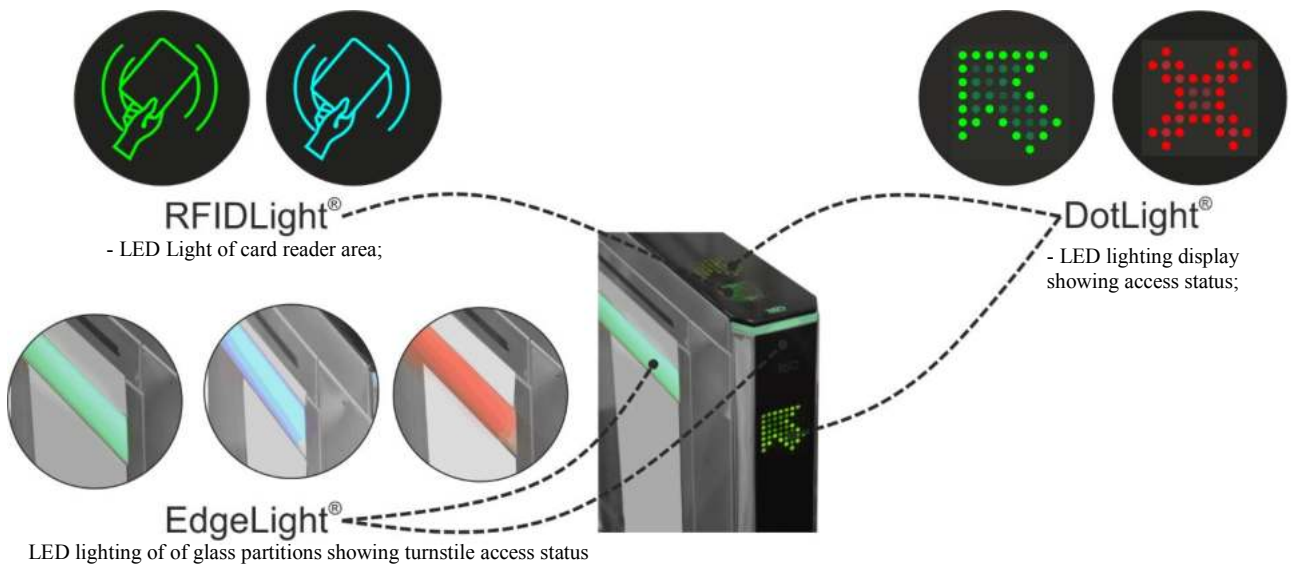

Fig.6 – Light indication of the turnstile status
The turnstile status is displayed by LED display board (3) *DotLights®*, installed in the cabinet's frame. The lit blue LED means initial state of the turnstile (Fig.6). In case of attempt of unauthorized access red LED starts blinking and audible signal is generated on control desk. When opening command is issued, LED is changed to green from the side of authorized access. If unauthorized access is attempted when swing leafs (10) are opened, then the leafs will be closed, if there is no any obstacle in the leafs' swinging area.